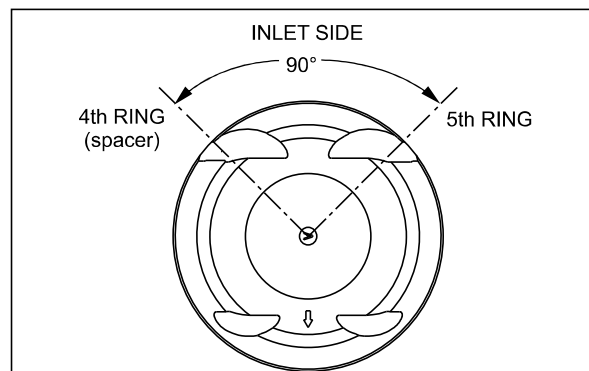

Fig. 3.103
- Align the end gap of 5th ring (oil rail bottom) at 90 degree from the end gap of the fourth ring (spacer) as shown. (Fig. 3.103)